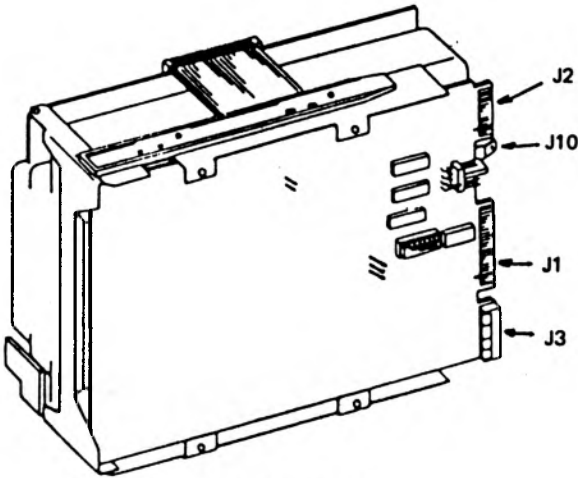

Figure 6
4. Plug the connector that is at the extreme end of this cable to J1 on the hard disk drive as shown in Figure 6. The connector is keyed to ensure that the connection is made the correct way.
5. Supplied with this kit is a narrow ribbon cable. Plug one end to connector J2 on the hard disk drive, see Figure 6. This connector is also keyed to ensure that the connection is made the correct way.
6. Find an unused ground wire (these are colored black and have one end already attached to the PC chassis) and connect it to the ground connector J10 on the hard disk drive as shown in Figure 6.
Disconnect this harness from the resistor and connect the harness to connector J3 on the hard disk drive as shown in Figure 6. This connector is also keyed to ensure that the connection is made the correct way.